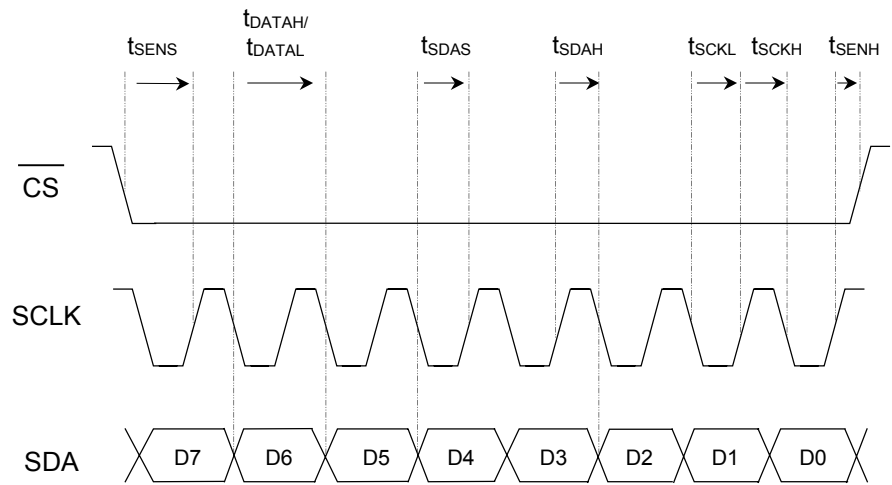

Figure 13 Serial Interface Timing Diagram
The serial interface (SI) programs the gain of the MT1530 using an 8-bit control word. The SI uses the gain control word to set the VA's and PA's gains individually using an internal decoder. It has an active-low chip-select (\overline{CS}) to synchronize to the incoming word. Data is clocked MSB first on the rising edge of SCLK. Data is latched on the rising edge of \overline{CS} . Table 4 and Table 5 show the register format. Figure 13 illustrates serial interface timing.